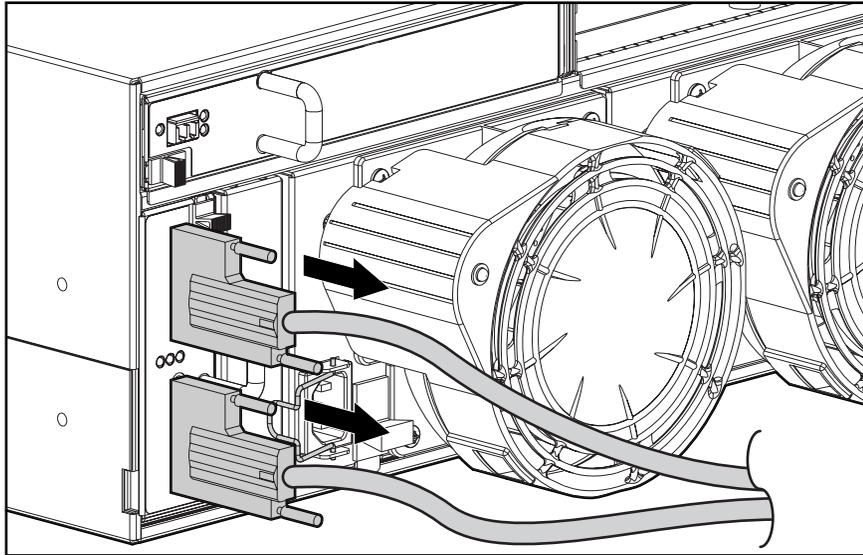

Figure 2-36: Removing SCSI cables
2. Unplug the SCSI host port A cable and SCSI host port B cable from the SCSI connectors, as shown in Figure 2-36.